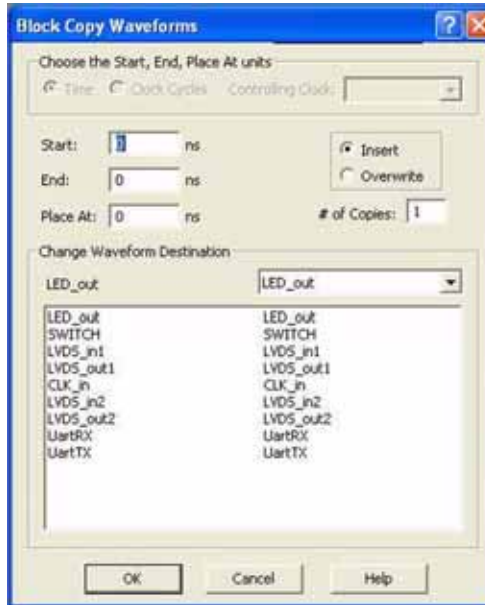

Figure 3-12. Block Copy Waveform Dialog Box
- From the Edit menu, select *Block Copy Waveforms*. This opens the **Block Copy Waveforms** dialog box with the selected signals displayed in the **Change Waveform Destination** list box, as shown in Figure 3-12.